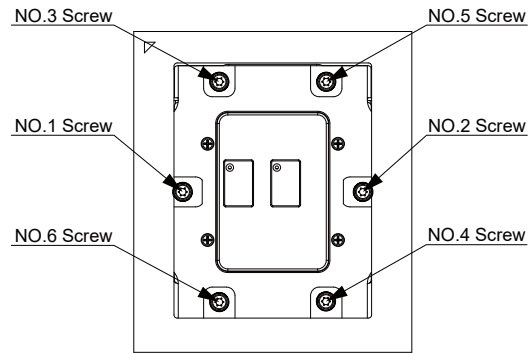

Figure 2
4. Tighten the two diagonal heat sink mounting screws, i.e. the #1 and #2 screws (Figure 2), Then do the same with the remaining four diagonal heat sink mounting screws.